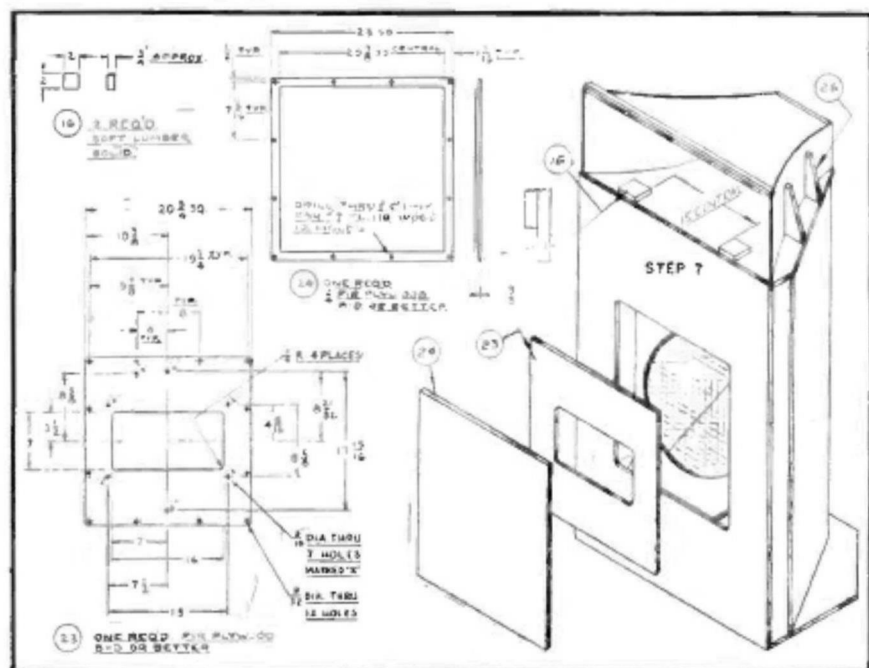

Fig. 4. Steps for assembling the diffraction horn to the low-frequency section.
Step 7 shown in Fig. 4, is the completed erection of the Patrician horn assembly with mid-bass diffraction horn housing added, and details 16, 23, 24, and 26. (Note detail 26, an acceptable alternate serving the purpose as well as the curvilinear detail 25 indicated in step 6, and easier for most of us to make, unless blessed with special tools for routing the top of part 3, shown in step 6).
Glue and nail cleats 16 to 3, Fig. 4, which is the top of the folded horn; keeping 1 at right angles to 3, glue and nail gussets to suit. And make sure that an airtight seal exists where the diffraction horn sub-assembly sits atop the K horn. Do this by adding adhesive-backed, airtight sponge rubber weatherstripping,  $\frac{1}{8}$  by  $\frac{3}{4}$  in. along the inner outline of 24. Do the same around the exterior of the front loading panel opening in 23.